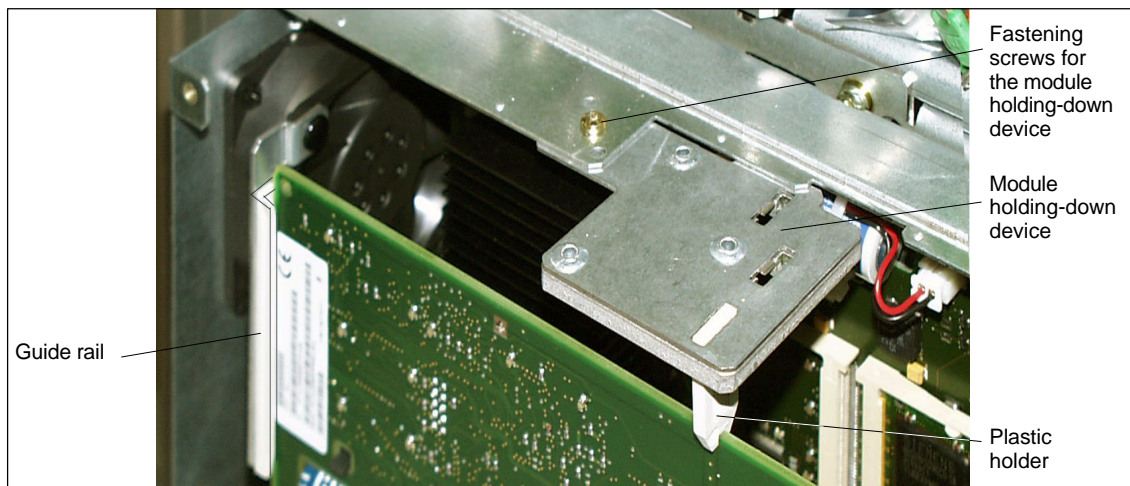

Fig. 2-12 Fixing the MCI board
4. Remove the fastening screw of the module holding-down device (Fig. 2-12) of the MCI board and remove the module holding-down device.